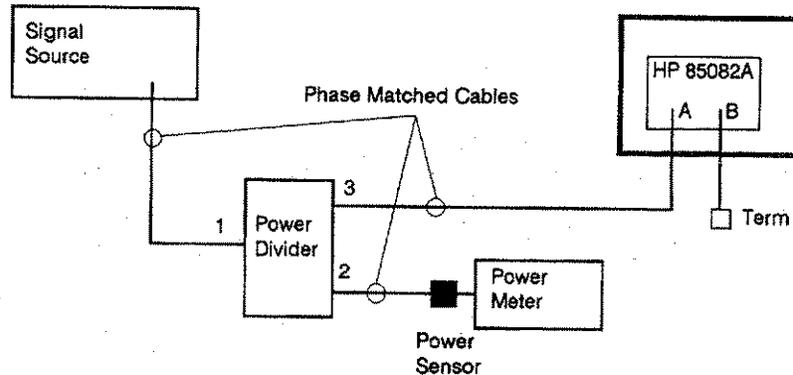

Figure 5-1. SRD Bias Adjust Setup
1. Configure the equipment as shown in Figure 5-1.